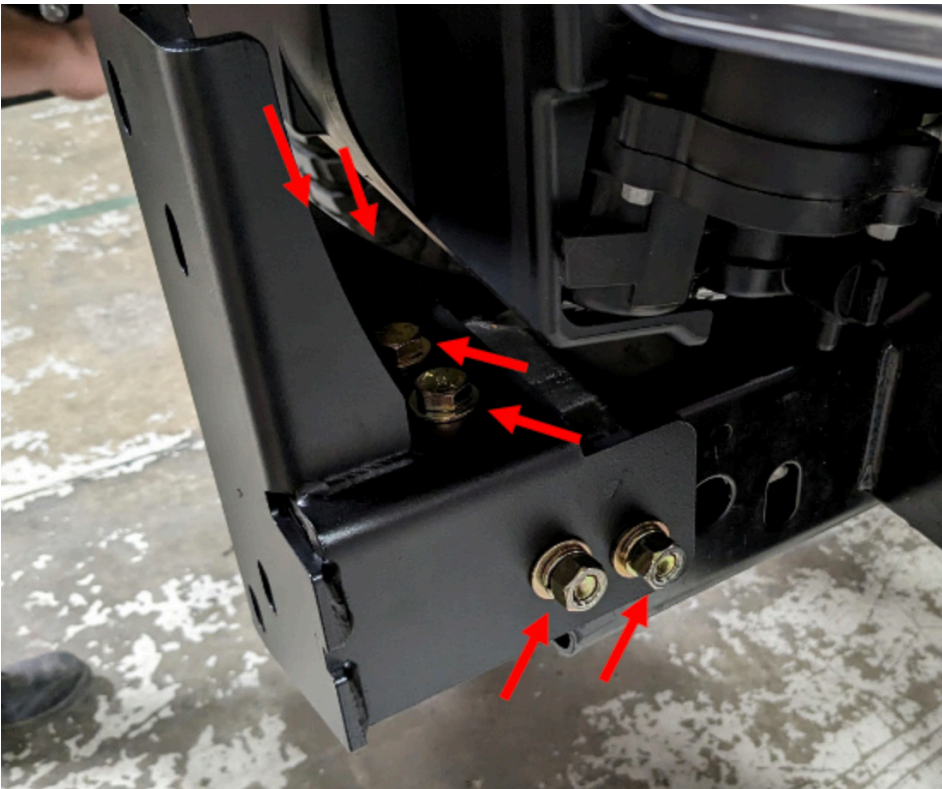

Figure 25
28. With the provided (12) 1/2" bolts, flat and lock washers, and nuts, install the two (2) provided mounting brackets to the frame rails. Part#: 23085 is the driver's side and Part#: 23086 is the passenger side. (Figure 25)